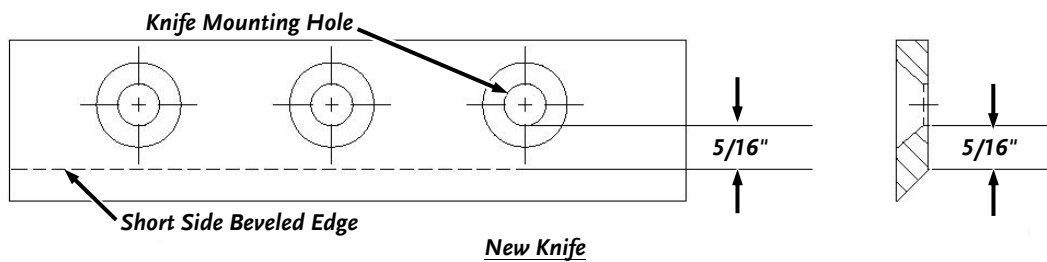

Figure 24
- A new Chipper Knife has a $5/16$ " measurement between the short side bevel edge and the Knife mounting holes (**Figure 24**).